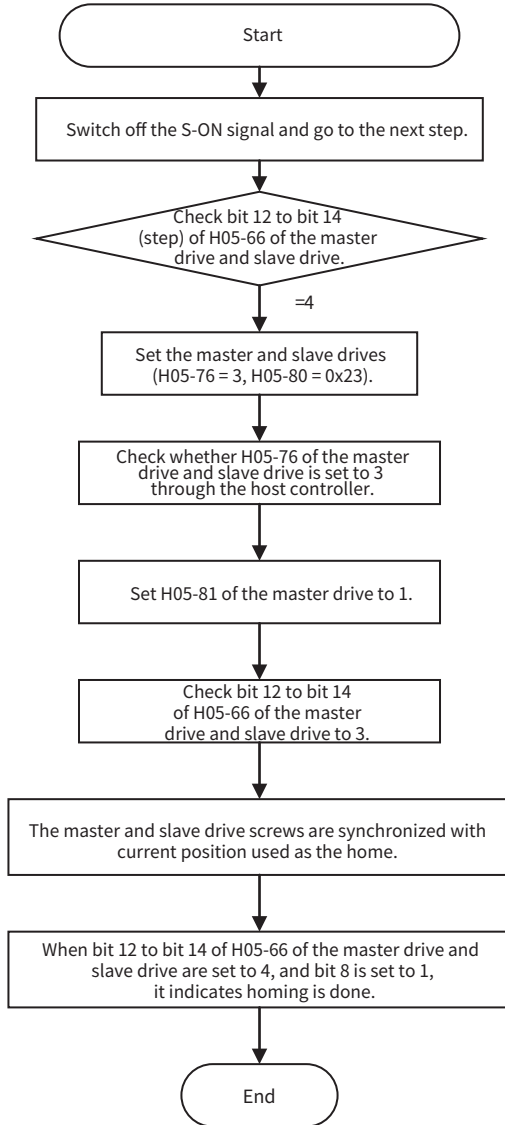

Figure A-6 Flowchart 2 for dual-screw homing mode
2) Figure A-6 shows the homing process where the previous position is used as the home.